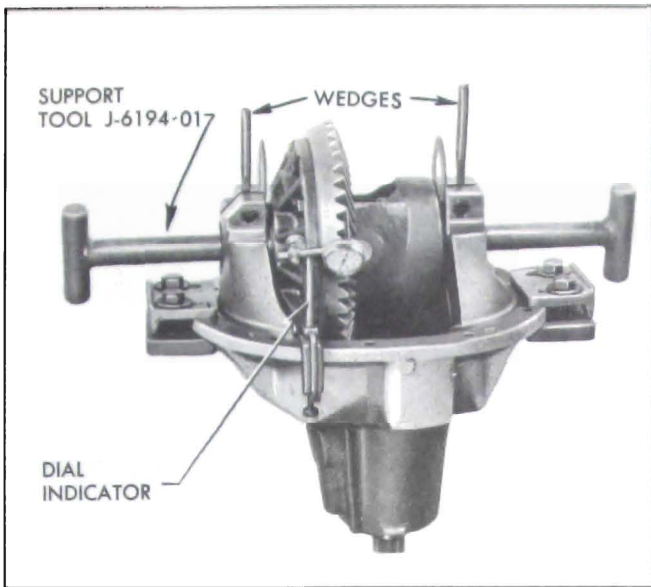

Figure 6-29—Positioning Differential for Correct Backlash
2. Place case assembly and differential bearings in position in carrier. If same bearings are used, install in original positions. Insert Support Tools J-6194-01 through the pedestal bores into the bearing inner races. Press tools toward each other to seat them, using hand pressure. If support tools are loose, install pedestal clamp bolts and nuts and tighten lightly until support tools can just be moved by twisting them. If support tools are too tight, loosen them as necessary by slightly wedging pedestals open with chisels. See Figure 6-29.